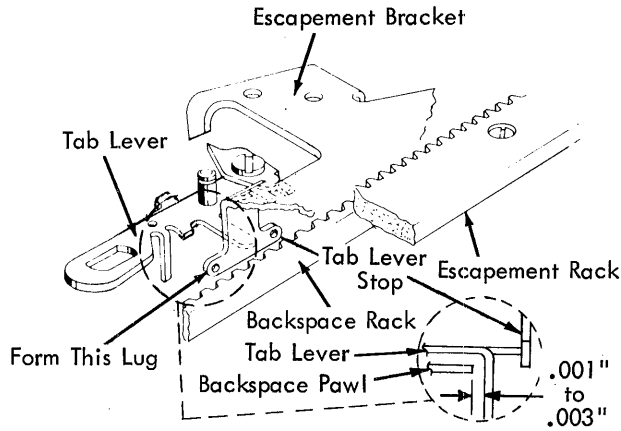

FIGURE 230. Tab Lever Stop
3. Tab Lever Stop (Fig. 230) - Form the stop on the escapement bracket to obtain .001" - .006" clearance between the vertical lug on the tab lever and the backspace pawl when the tab lever is at rest and the backspace pawl is fully seated in its rack.